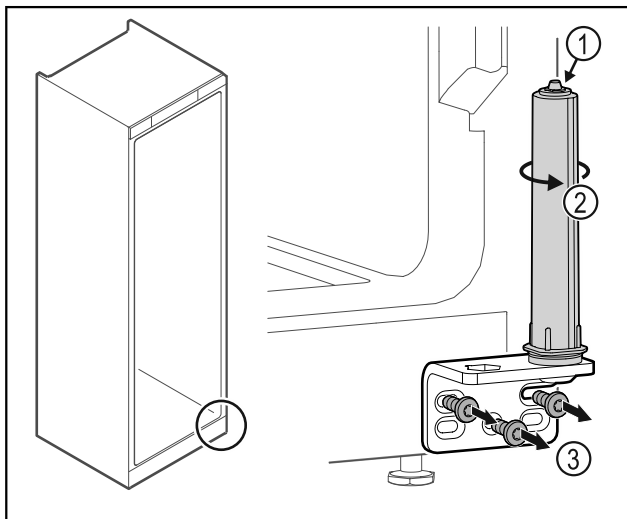

Fig. 30
- Do not disassemble the door closing system Fig. 30 (1).
- Turn the closing system Fig. 30 (2) until it clicks.
- Unscrew the hinge Fig. 30 (3).